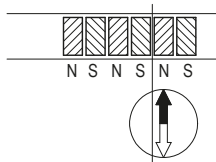

Fig. 10: Determination of the pole position. Cutting the magnetic strip
- If necessary, use a compass needle to determine the location of the poles on the magnetic strip (fig. 10).